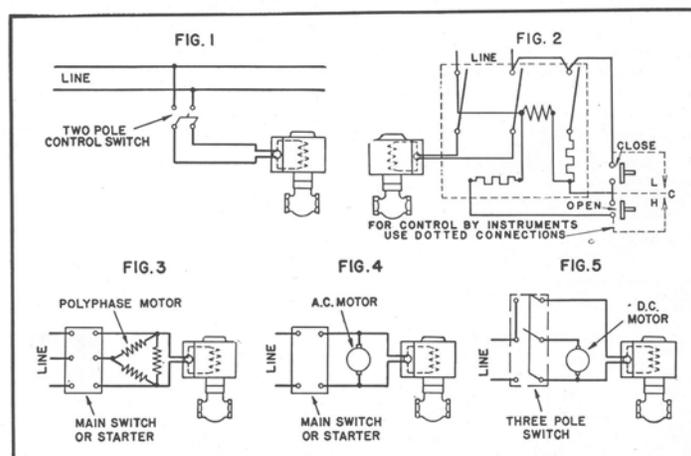

Fig. DVD 488 Wiring Diagrams.
6. Electrical connections must be made to line of proper voltage (and frequency, if AC) as specified on nameplate. Typical wiring connections for various methods of control are shown in Fig. DVD 488. Fig. 1 shows valve connected to line through a double pole control switch. For manual remote control, the switch may be an ordinary 5 amp. push button, tumbler, rotary, or similar switch. A single pole switch may be used but there is some chance of failure due to grounded wiring or control equipment.